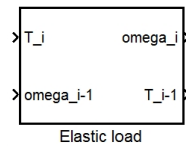

Figure 3: Elastic load Simulink mask
- (c) Implement a generic elastic load as a Simulink sub-system, as shown in Figure 3. Either hardcode  $J = 1 \text{ kg} \cdot \text{m}^2$ ,  $K = 0.5 \text{ kg} \cdot \text{m}^2/\text{s}^2$  and  $D = 0.01 \text{ kg} \cdot \text{m}^2/\text{s}$ , or use mask parameters.